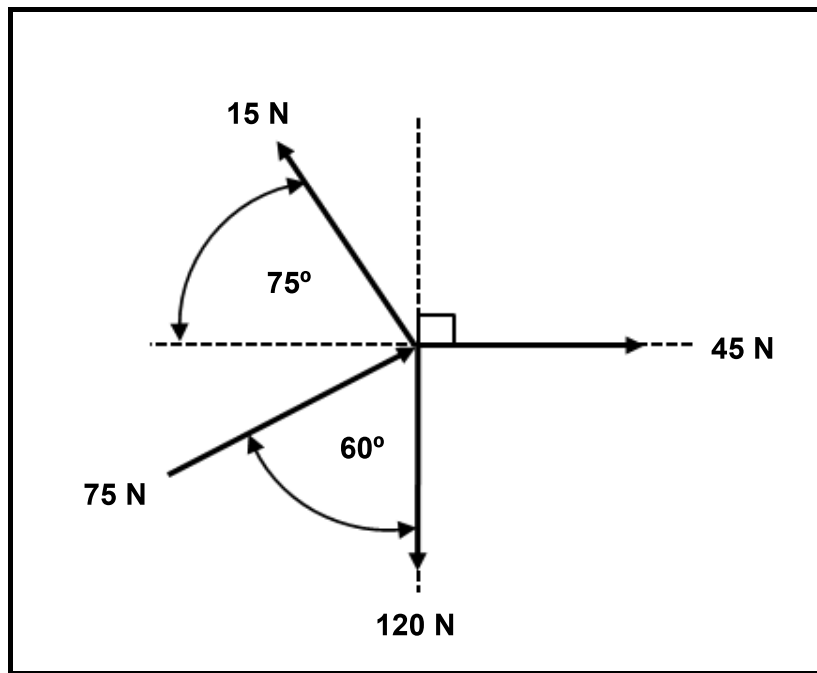

FIGURE 8.1
- 8.1 FIGURE 8.1 indicates a system of forces with three pulling forces and one pushing force acting onto the same point.
HINT: Draw and complete the diagram in FIGURE 8.1. Show ALL the horizontal and vertical components before you do the calculation.